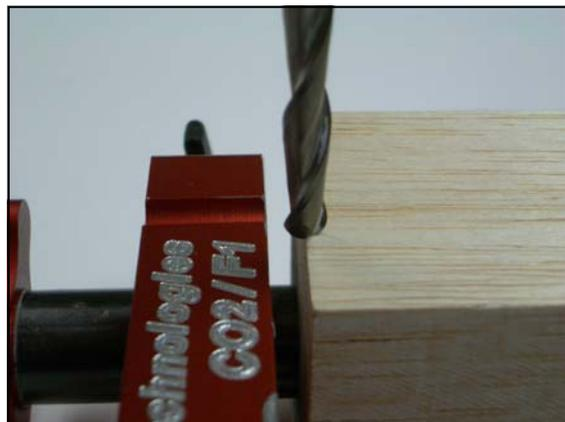

Figure 7 - X Offset Position.
- Jog the machine so the center of the ball nose endmill is on the edge of the left side of the blank. Refer to Figure 7. Click on the datum point in the offsets window and select the default.